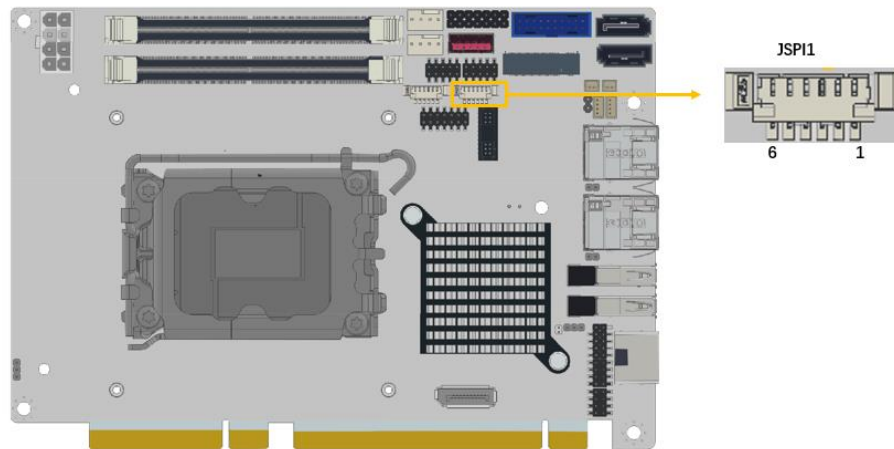

Figure 3-23: Flash SPI ROM Connector Location
- CN Location:** See Figure 3-23